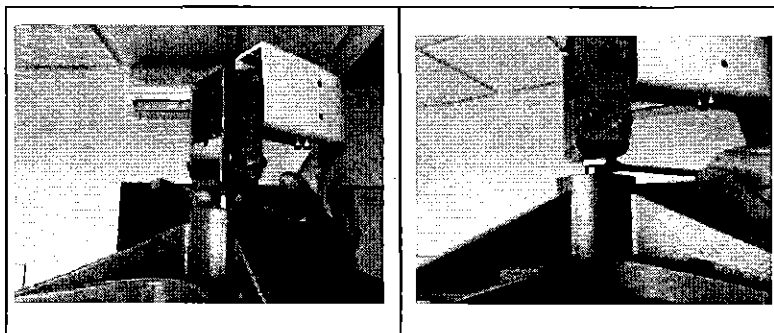

Figure 4.5: insert the bushing back into place by using your fingers, and then using a wrench to tight it in its place
4.5 If the bushing is loose, insert it back to its place by using your fingers first, and then tight it to its place by using an open 20 mm wrench (see figure 4.5).